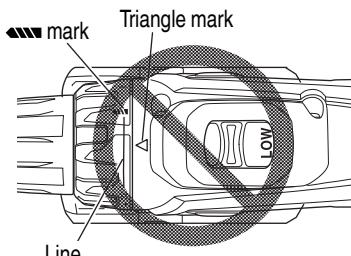

Fig. 12
- Do not use with the clutch dial set at the line between the number "22" and the drill mark "Weak". Doing so may cause damage (See Fig. 12).